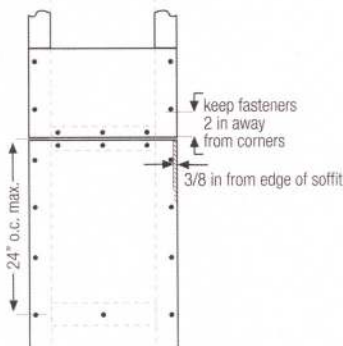

Figure 5
- Ensure gutters have end caps. Maintain a minimum 1 in gap between end caps and siding & trim (fig. 5).